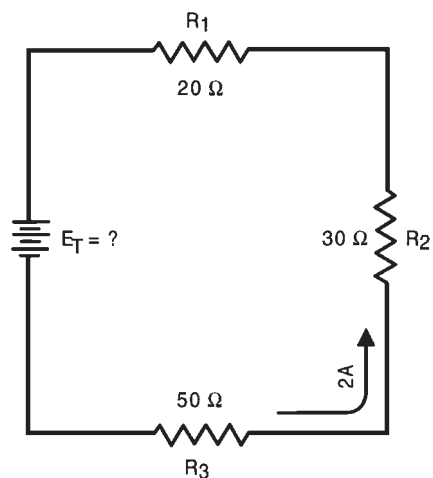

Figure 10.29 Solving for applied voltage in a series circuit.
1. Draw a circuit diagram as shown in Fig. 10.29.